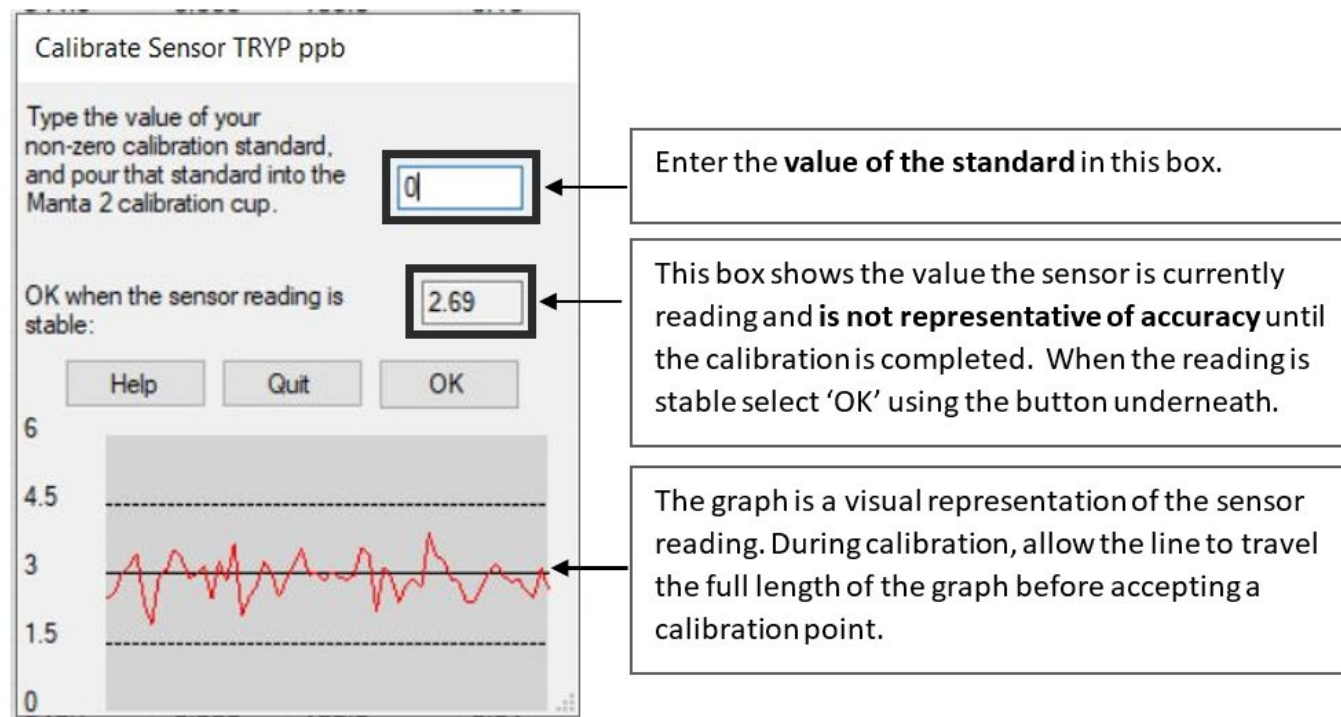

Figure 25: Proteus calibration window.
**There must be a minimum blanking distance of 10cm (vertical) and 10 cm (horizontal) between the sensor and the sides of the container to prevent light reflection. See Figure 25.**